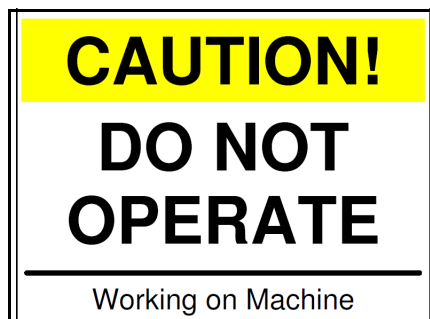

Figure 2-12: Caution Sign
6. Place the "Caution" sign on the monitor (see Figure 2-12).
3. Place the “Caution” sign on the monitor (Figure 2-12 on page 35).